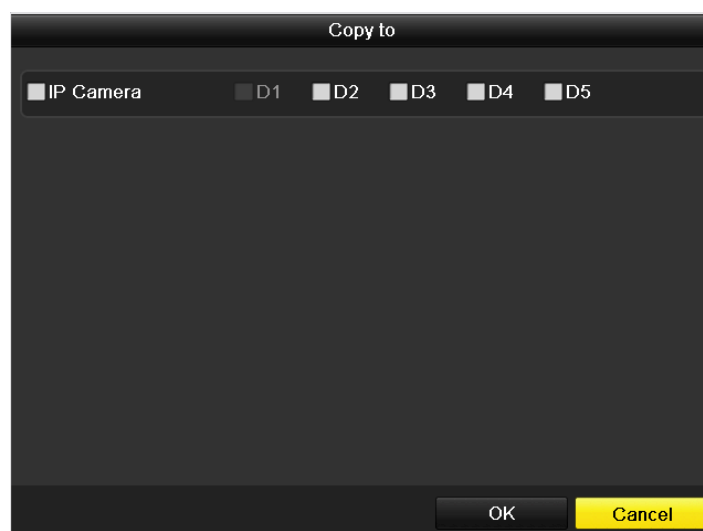

Figure 2.8 Copy Record Settings
12. Click **Copy** to copy the settings to other channels, as shown in Figure 2.8.